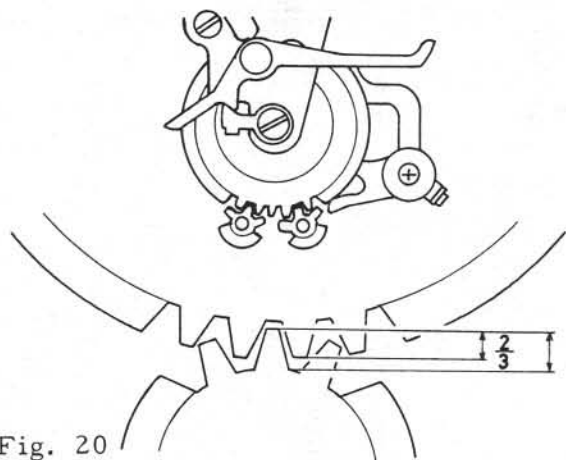

Fig. 20
- Note: Tighten the screw (CNM1.7x4.5) while engaging the curtain gears and the shutter curtain pinion gears approx. 2/3. Refer to Fig. 20.